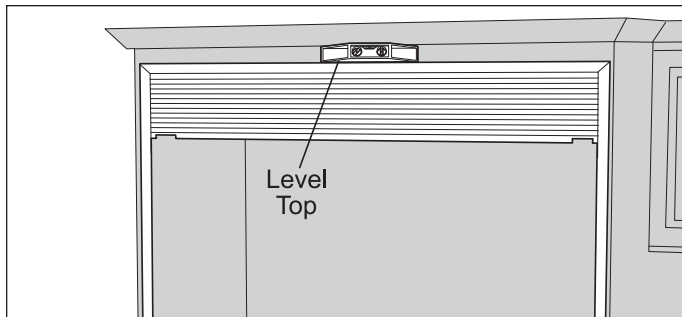

Figure 2-15.
3. Level the top of the trim frame using a carpenter's level. (See Figure 2-15).